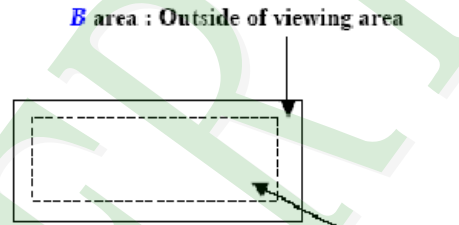

Fig. 2 A area : viewing area
- (4). Definition of area . (Fig. 2)